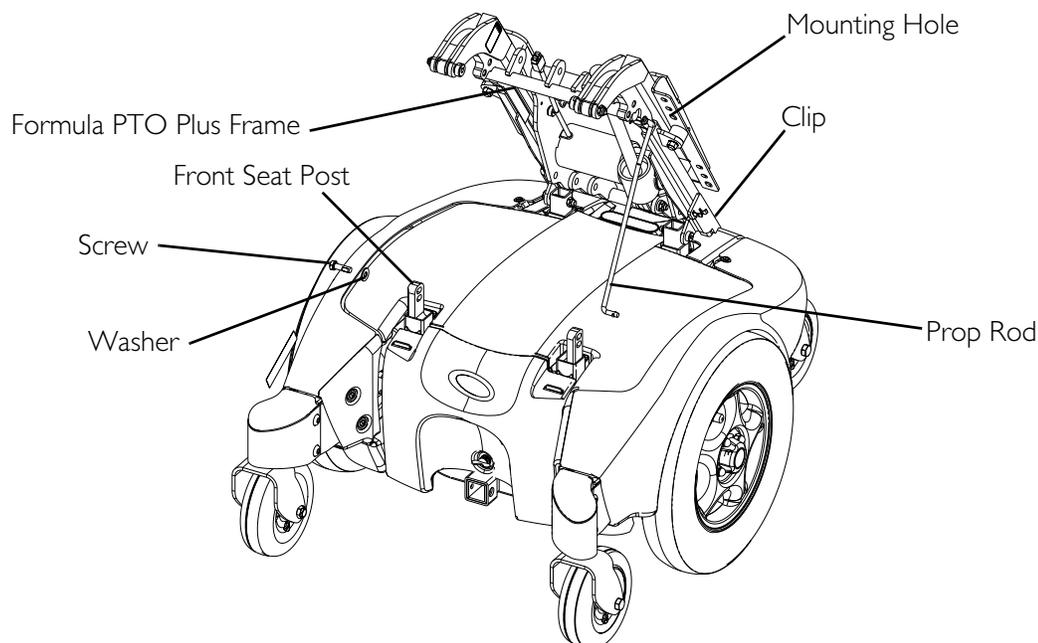

FIGURE 7.11 Tilting the Seat Assembly
NOTE: For this procedure, refer to FIGURE 7.11.
8. Remove prop rod from the clip located on the Formula PTO Plus frame and engage the prop rod end into the front seat post as shown in FIGURE 7.11.